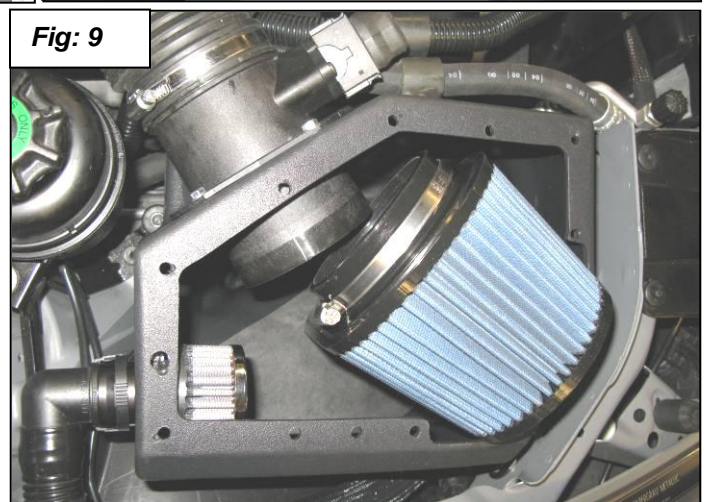

Fig: 6
- Install the rubber inlet hoses onto the inlet air ducts as shown in figure 6.